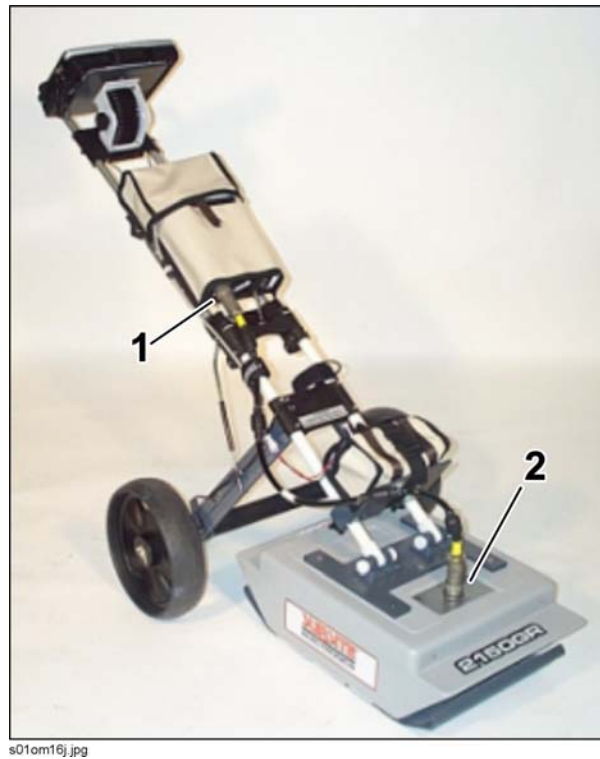

Fig. 4-6 – Antenna-radar connection
- Connect one end of the antenna-control unit connection cable to the antenna port (2). Connect the opposite end to the ANT.1 port (1) on the Control Unit (Fig. 4-6).